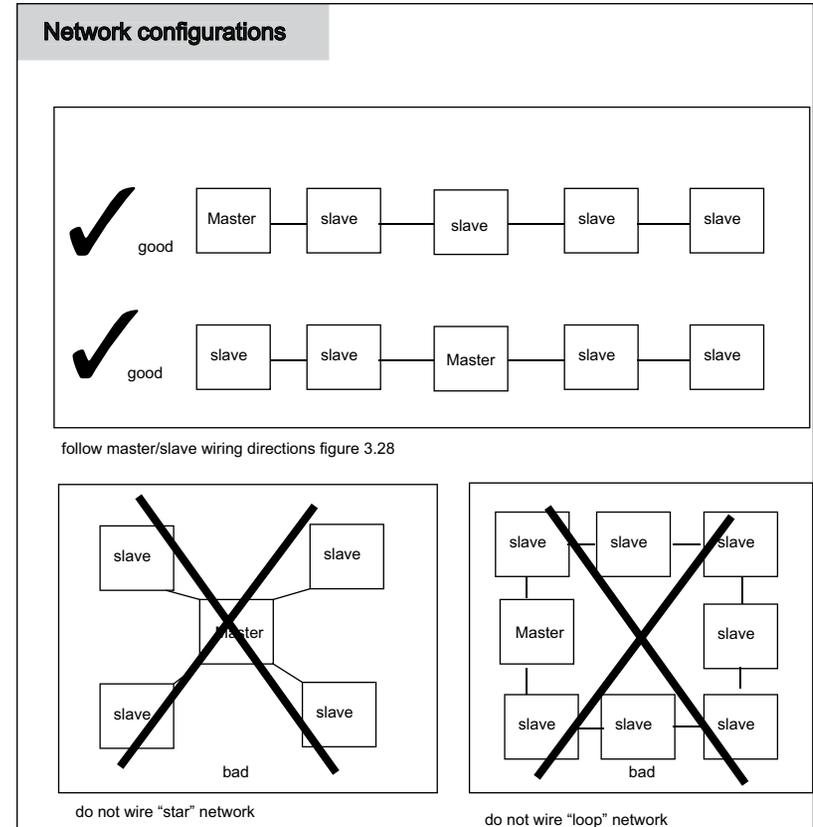

Figure 3.30
- Remove network terminal strip from any networked slave that is not powered. Network rewiring is required if a stub (\*see note below) is created when a slave is taken off the network. See valid network configuration - see figure 3.30.
5X00 networks must be configured point to point (instrument to instrument). Network wiring cannot contain loops, stars, or stubs - figure 3.30.